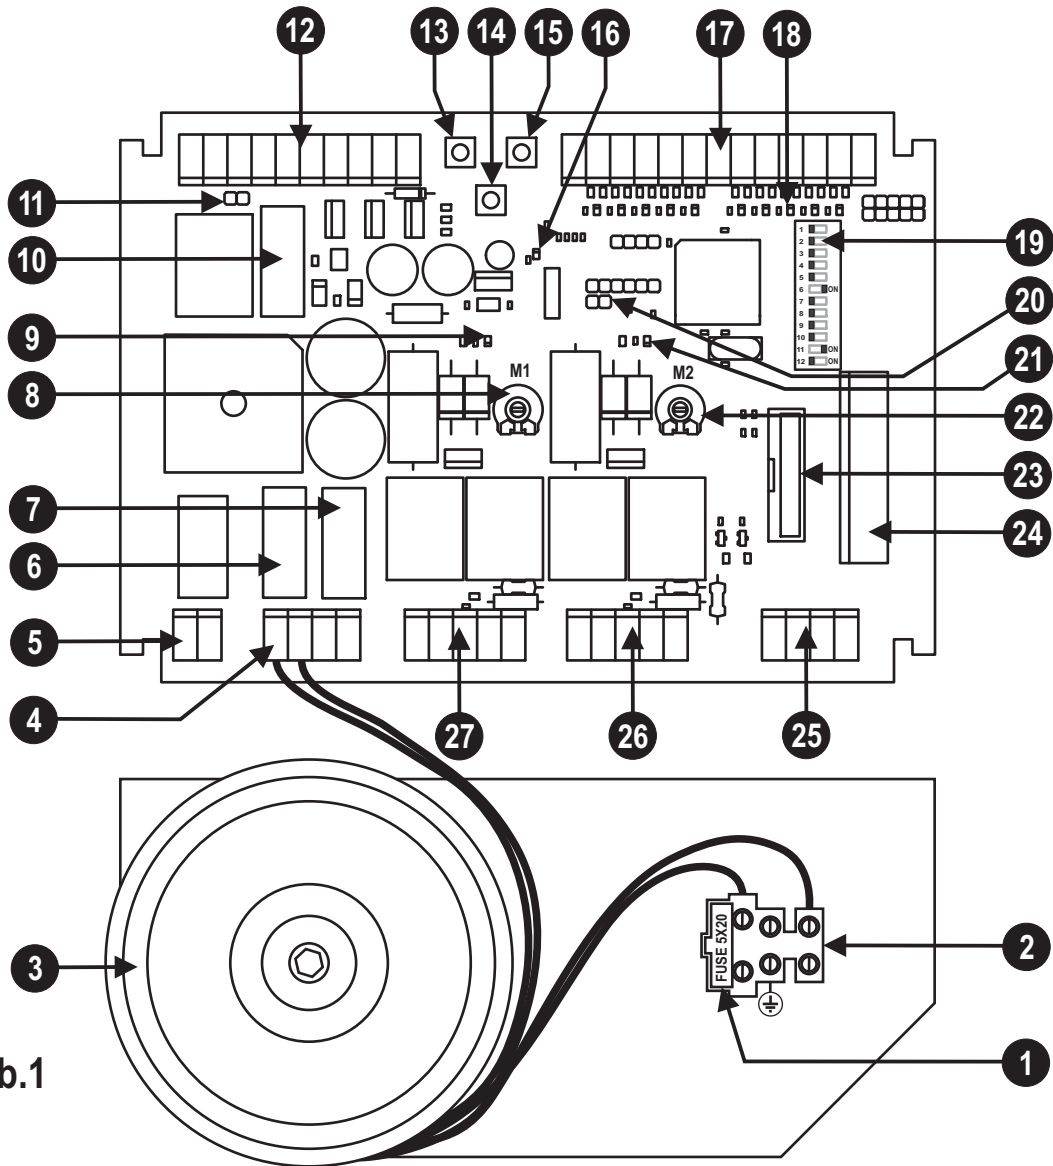

Abb. 1
- Insert the receiver in the connector (detail 23 of fig. 1)
BESCHREIBUNG DER VERSCHIEDENEN TEILE (Abb. 1)